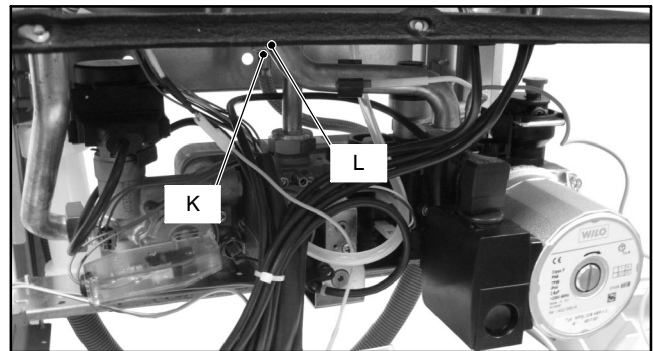

Fig. 13.2
- 2 Completely unscrew the connection *K*, the locknut *L* (Fig. 13.2) and remove the expansion vessel from the top of the boiler.